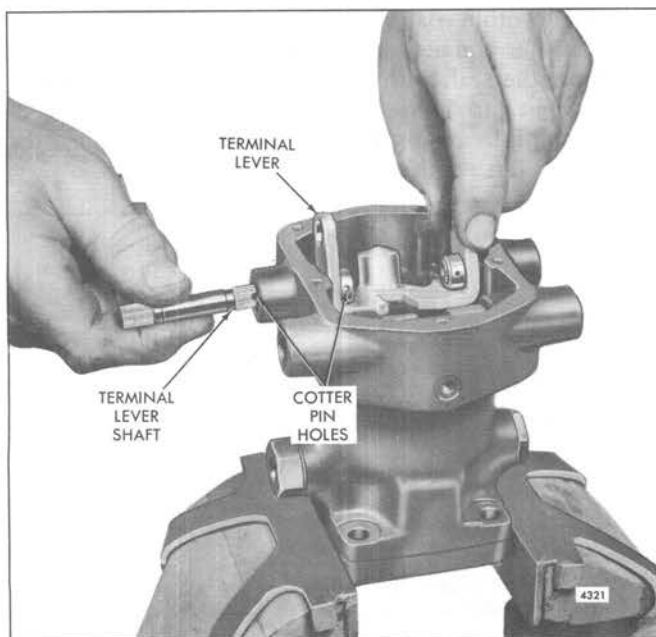

Fig. 15 – Installing Terminal Lever Shaft in Governor Housing and Terminal Lever
10. Lubricate the power piston (46) with engine oil. Then insert the piston, small end down, straight into the piston bore in the governor housing and push it in until it bottoms.
11. Install the terminal lever (48), terminal lever shafts (24), cotter pins (21), cup plug (25) and oil seal (27) in the governor housing as follows:
- c. Lubricate the long terminal lever shaft with engine oil. Place the terminal lever in between the ends of the two bushings inside the governor housing. Then insert the serrated end (with the cotter pin hole) of the shaft through the oil seal and bushing in the housing, with the cotter pin holes in the shaft and terminal lever in alignment as shown in Fig. 15. Push the shaft into the lever until the two holes are in alignment.